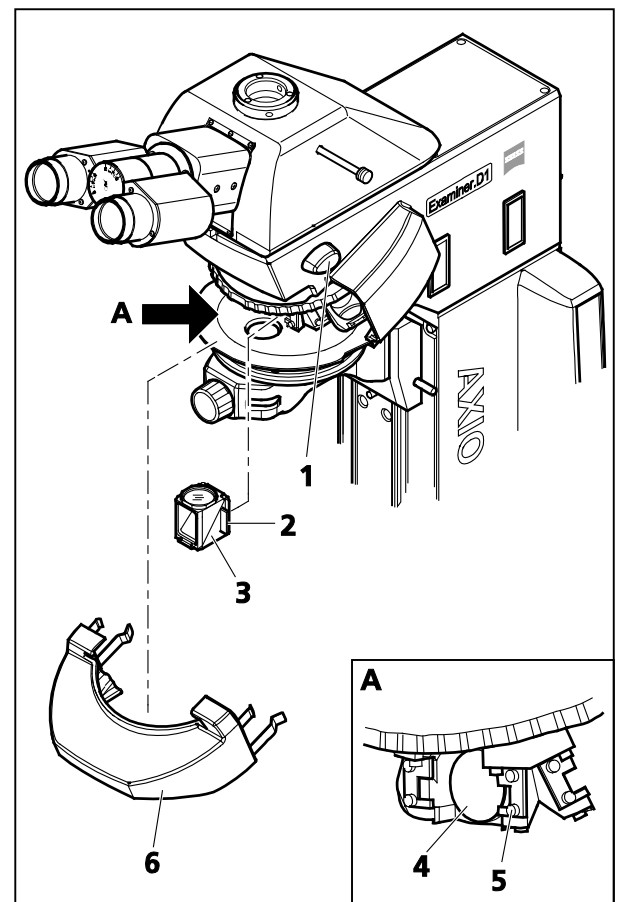

Figure 3-6 Replacing the reflector module - reflector turret 5x
(1) Installing a module
- Set the shutter AL shift knob (Figure 3-6/1) to the CLOSE position.
- Pull off the cap (Figure 3-6/6) toward the front.
- ☞ The cap (Figure 3-6/6) is locked when the shutter is not closed. Never use force to remove the cap.
- Insert the module (Figure 3-6/3) with the holder elements (Figure 3-6/2) mounted to module's right and left hand at an angle from below into the upper spring elements (Figure 3-6/5) at the reflector turret.
- Then tilt the module down (see Figure 3-6/4) to ensure that the module also locks safely into the lower spring elements of the reflector turret.
(2) Removing a module
- Slightly tilt and pull the module (Figure 3-6/4) first out of the lower spring elements (Figure 3-6/5), and then out of the upper spring elements, and then take it out completely.
- After removing or installing the reflector modules, insert the cap (Figure 3-6/1) into the stand casing, and press it on until it locks into place.
- Set the shutter AL shift knob (Figure 3-6/1) to the OPEN position. The cap is locked now.